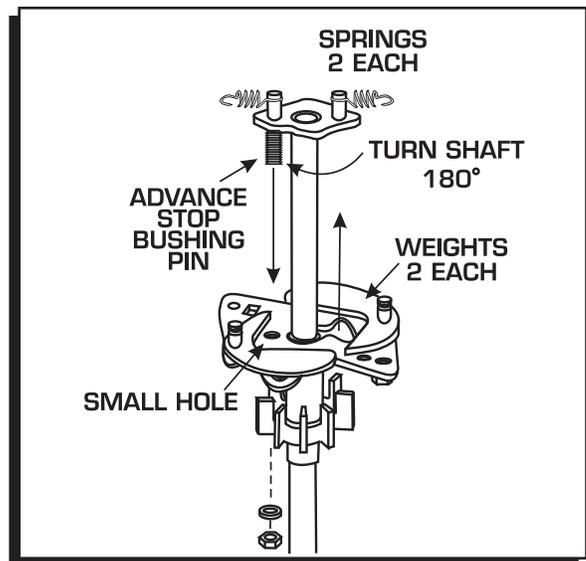

Figure 8 Locking Out the Advance.
3. Rotate the shaft 180° and insert the advance stop bushing pin into the small hole on the advance plate (Figure 8).